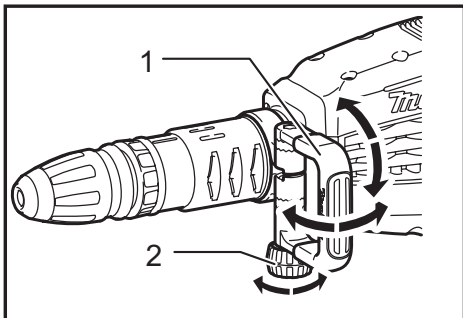

Fig.4
- **Fig.4:** 1. Side handle 2. Clamp nut